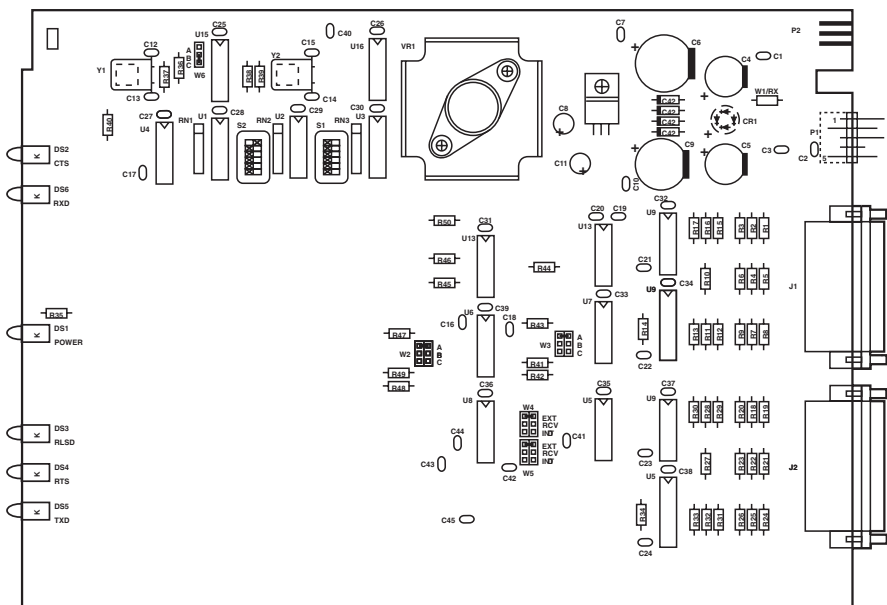

Figure 3-1. Layout of the High-Speed SME V-35's circuit board.
- Figure 3-1 on page 7 shows the layout of the SME's printed-circuit board.